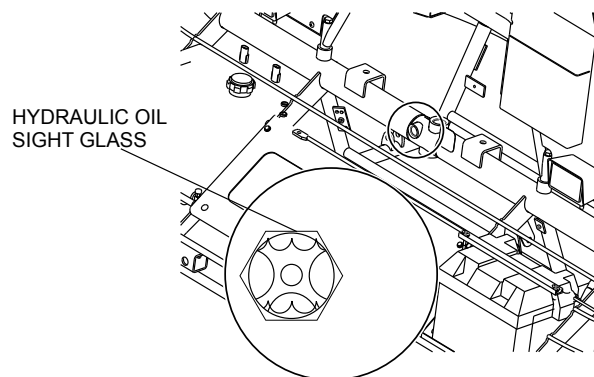

Figure 8. Hydraulic Oil Sight Glass
1. Check the hydraulic oil condition through the sight glass (Figure 8) Replace hydraulic oil if dirty or if bubbles are present.